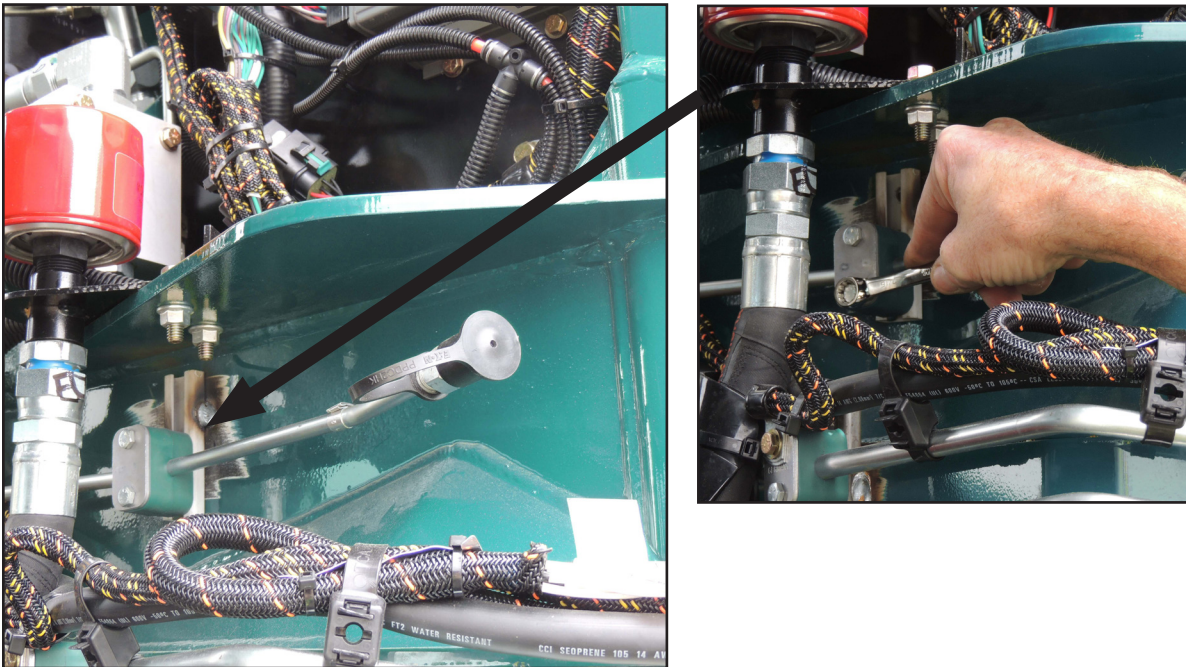

Figure 2: Remove and discard the stauff clamp.
2. Use a 7/16" wrench to remove the bolts that secure the stauff clamp to the body (Figure 2). Discard the bolts and clamp.